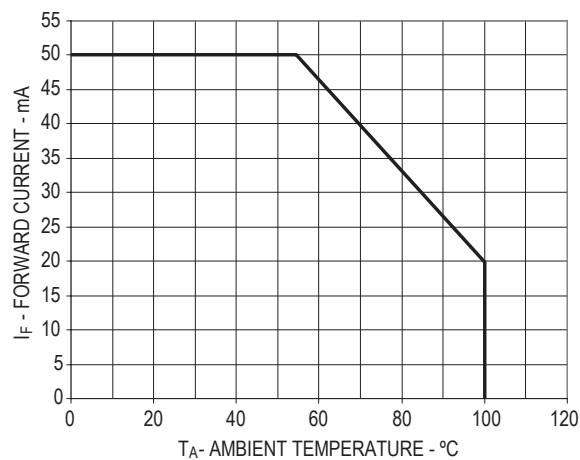
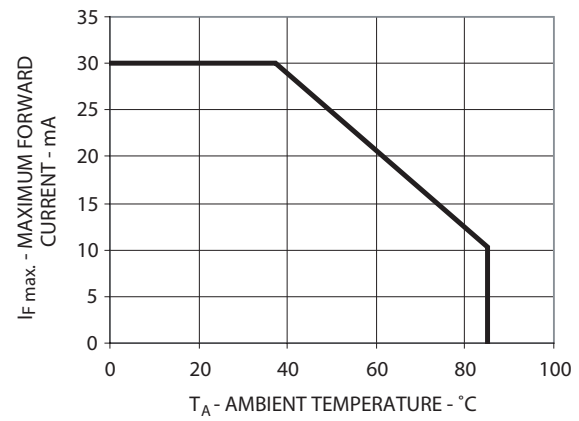

Figure 4. Relative Intensity vs Forward Current
Figure 8. Maximum Forward Current vs Ambient Temperature
1. Derate linearly as shown in Figure 4 and Figure 8.